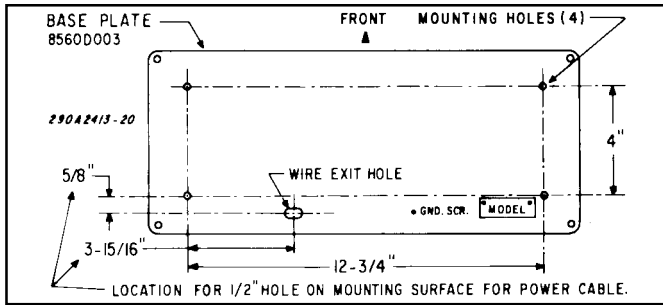
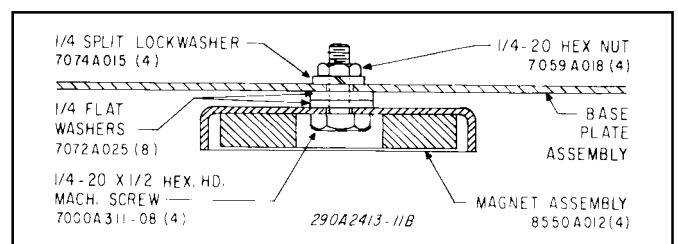

Figure 2.
Figure 3.
2. Locate the four mounting holes in the base plate as shown in figure 2.
3. See figure 3. From the underside of the magnet, insert a 1/4-20 hex head screw through the magnet. Place two 1/4" flat washers over the exposed threads.
4. Insert the remaining exposed threads of the assembly through a mounting hole (figure 2) in the base plate and secure with a 1/4" lockwasher and hex nut (see figure 3).